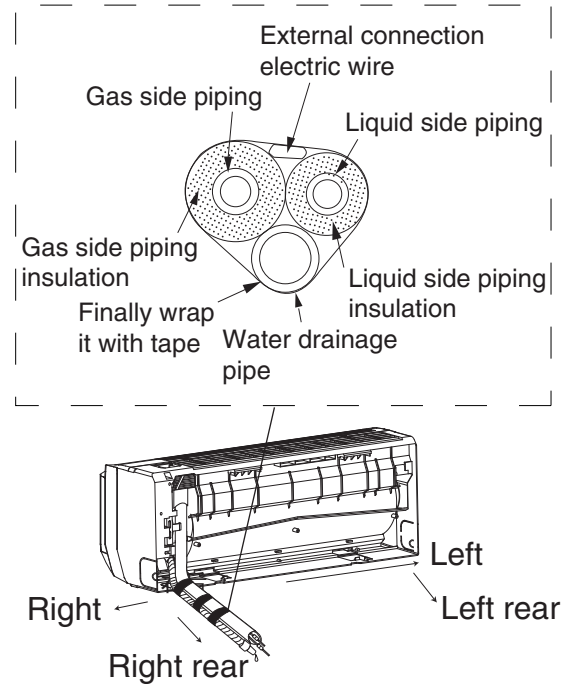

Fig.21
- Take out the piping from body case, wrap the piping, electric wire, water pipe with tape and push them through the piping hole. (As show in Fig.21)
- Connect the refrigerant tubing to the outdoor unit. (After performing a leak test on the connecting part, insulate it with the tubing insulation. (Fig.21) Also, refer to Pg 28, (connecting tubing between indoor and outdoor unit).